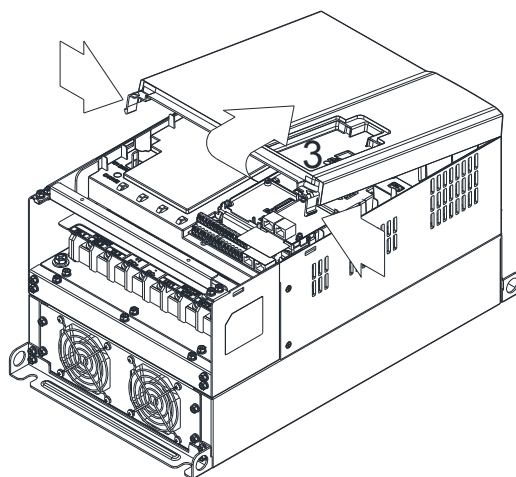

Figure 2
2. (Figure 2) Loosen screw 3, press the tab on the right and the left to remove the cover. Screw torque: 6~8kg-cm (5.2~6.9in-lbf).